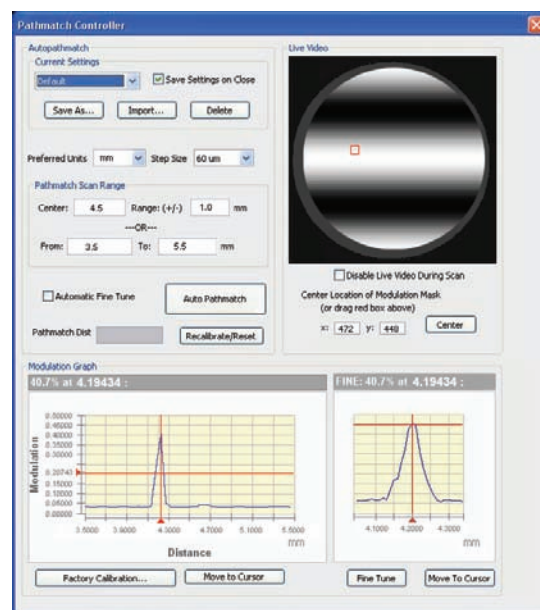

FIGURE 3. Pathmatch Controller dialog box.
- a. In 4Sight open the **Pathmatch Controller** dialog box (Figure 3).
- d. Click **Auto Pathmatch**. The system will set the path match location to the distance at which peak modulation occurred. In the example in Figure 3, this peak occurs at 4.194 mm.